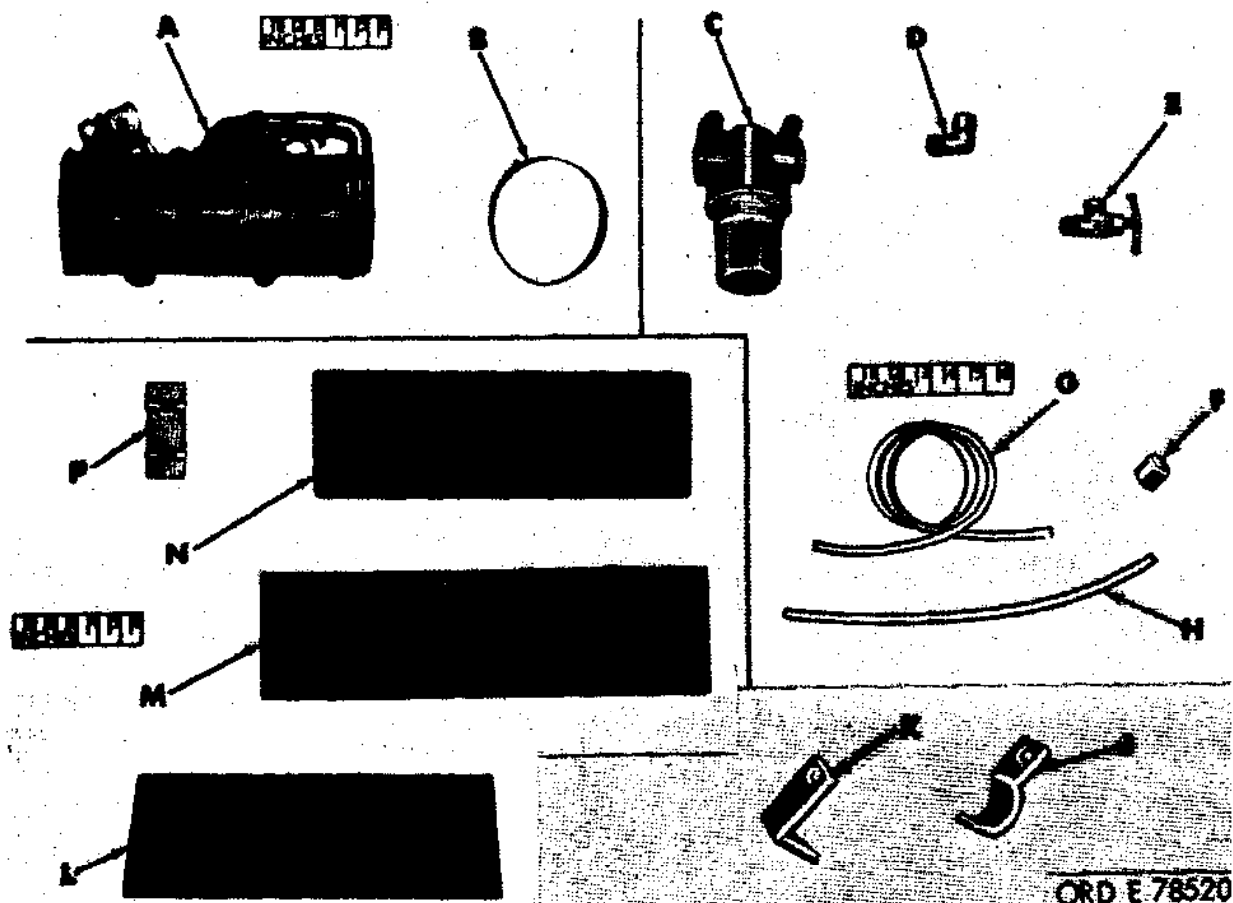

Figure 693. Major parts-winterization kit, power plant heater (1 of 4).
c. Composition of Kit. The kit is comprised of a coolant heater, battery box and covers, with necessary wiring controls and piping. Figures 693 through 696 indicate kit contents.